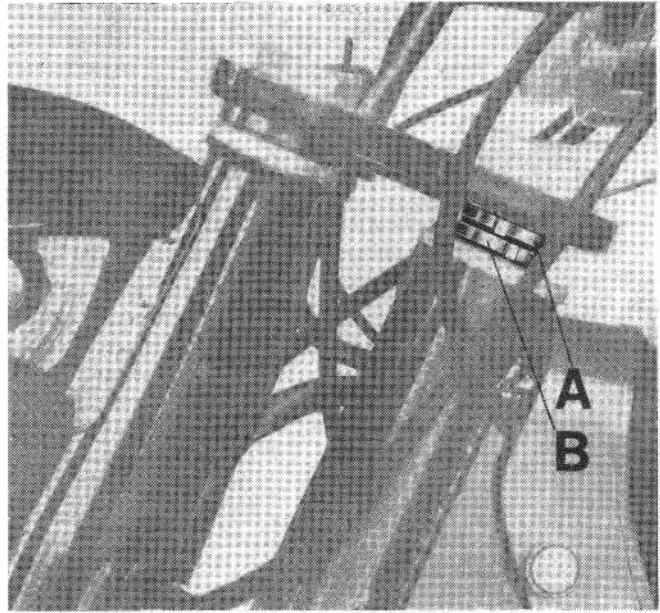

Fig. 97
- remove steering tube lockring (B) and lock cap (A) as shown on Fig. 97.
- fit steering tube lockring (see B on Fig. 97) and adjust steering play. Then secure lock cap (see A on Fig. 97) by means of special wrench.